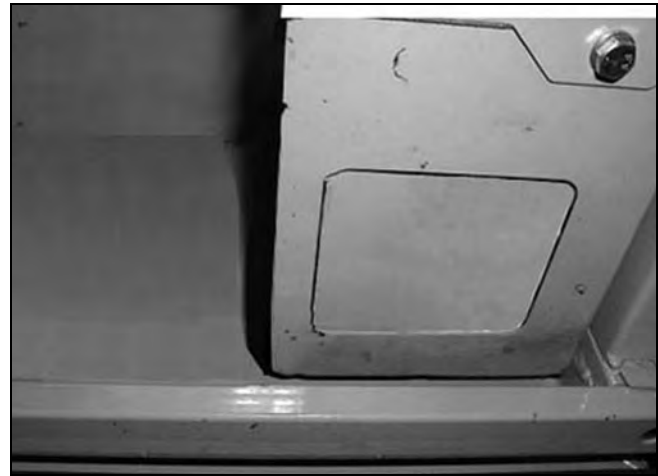

Figure 3-34 Fresh Air
- Fresh air-heater takes in air from outside the cab. See Figure 3-34.